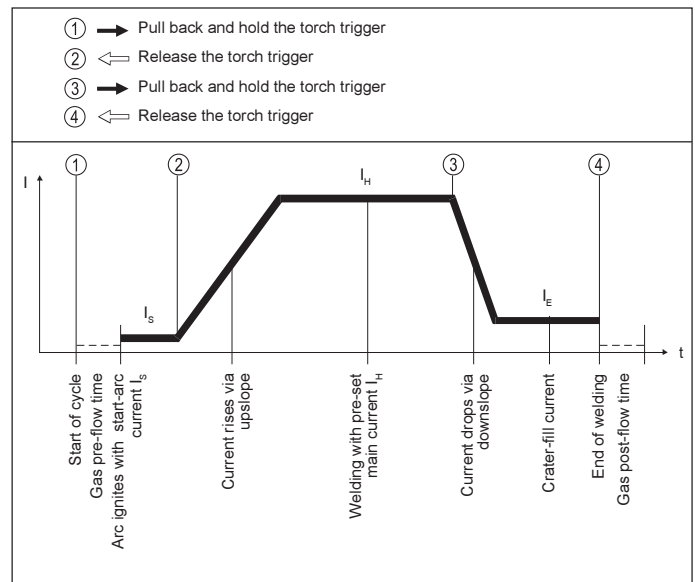

Fig. 4 Functional sequence in 4-step mode - without intermediate lowering
- Lights up together with either LED ⑦ or LED ⑧
⑦ **LED INDICATOR FOR 4-STEP MODE**
**Functional sequence (Fig.4):**
- LED indicator ③ lights up
- Welding current rises via the pre-set upslope to the value set on dial ⑮ for the welding current  $I_H$
- LED ⑩ lights up
- Welding current drops during the pre-set time (downslope, dial ⑪) until it reaches the value set for the crater-fill current  $I_E$  (dial ⑯, crater-filling)
- LED ⑫ lights up